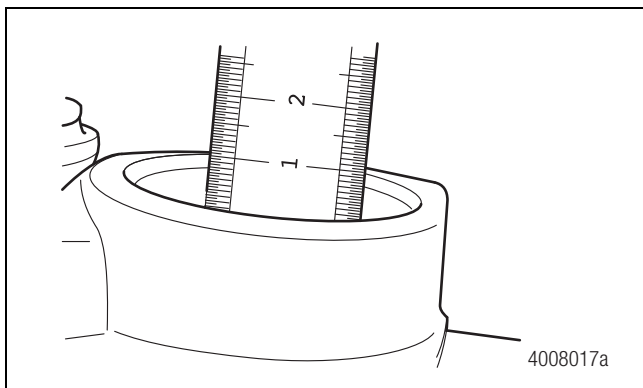
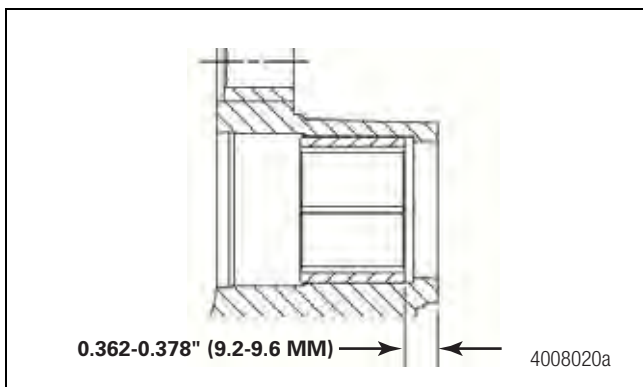

Figure 5.42
Figure 5.43
3. Use the applicable parts of Meritor tool MST 1000 to pull the bushing into the slide pin bore to a depth of 0.362-0.378-inch (9.2-9.6 mm) from the end of the slide pin boot retainer side of the bore. Figure 5.42 and Figure 5.43.